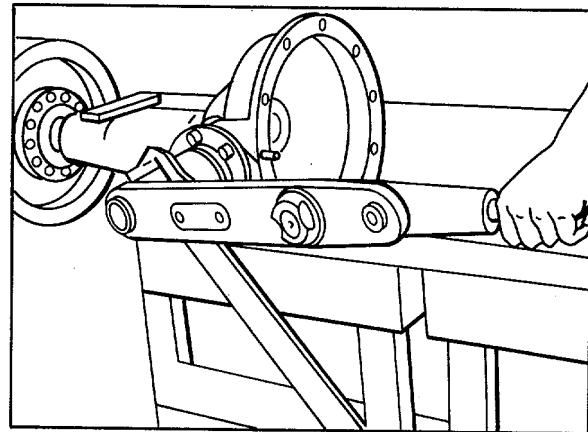

Figure 5.
16. Tighten to specified torque (refer to *Torque Specifications*) and install cotter key. Do not back off nut to align cotter key holes (refer to Fig. 5).